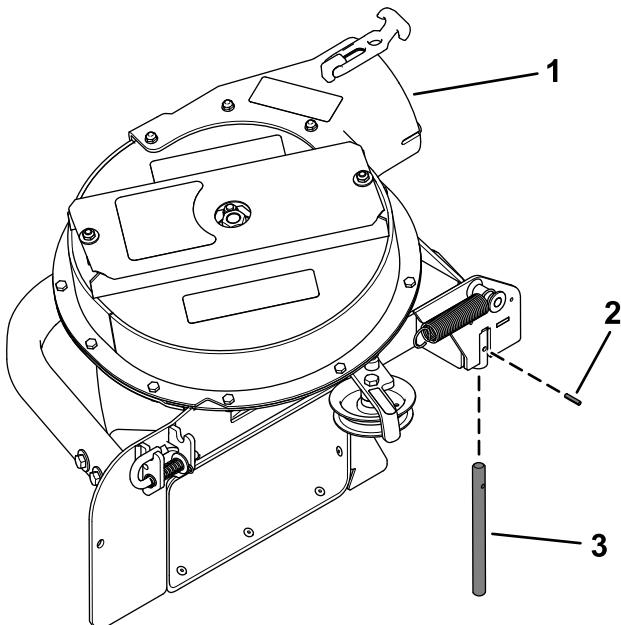
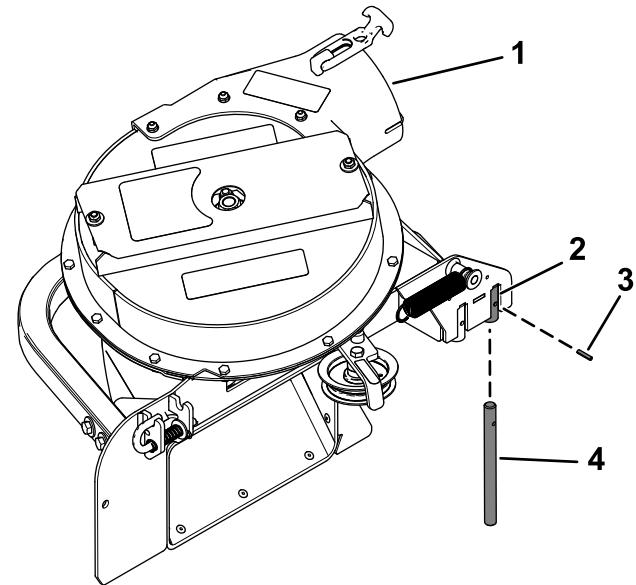

Figure 25
Figure 26
Verify that the pivot pin is secured on the blower assembly in the correct location (Figure 25 or Figure 26).
- If you have a **48-inch or 52-inch** mower deck, there is only a single hole to install the pivot pin (Figure 25).
- If you have a **60-inch** mower deck, install the pivot pin in the rear hole (Figure 26).